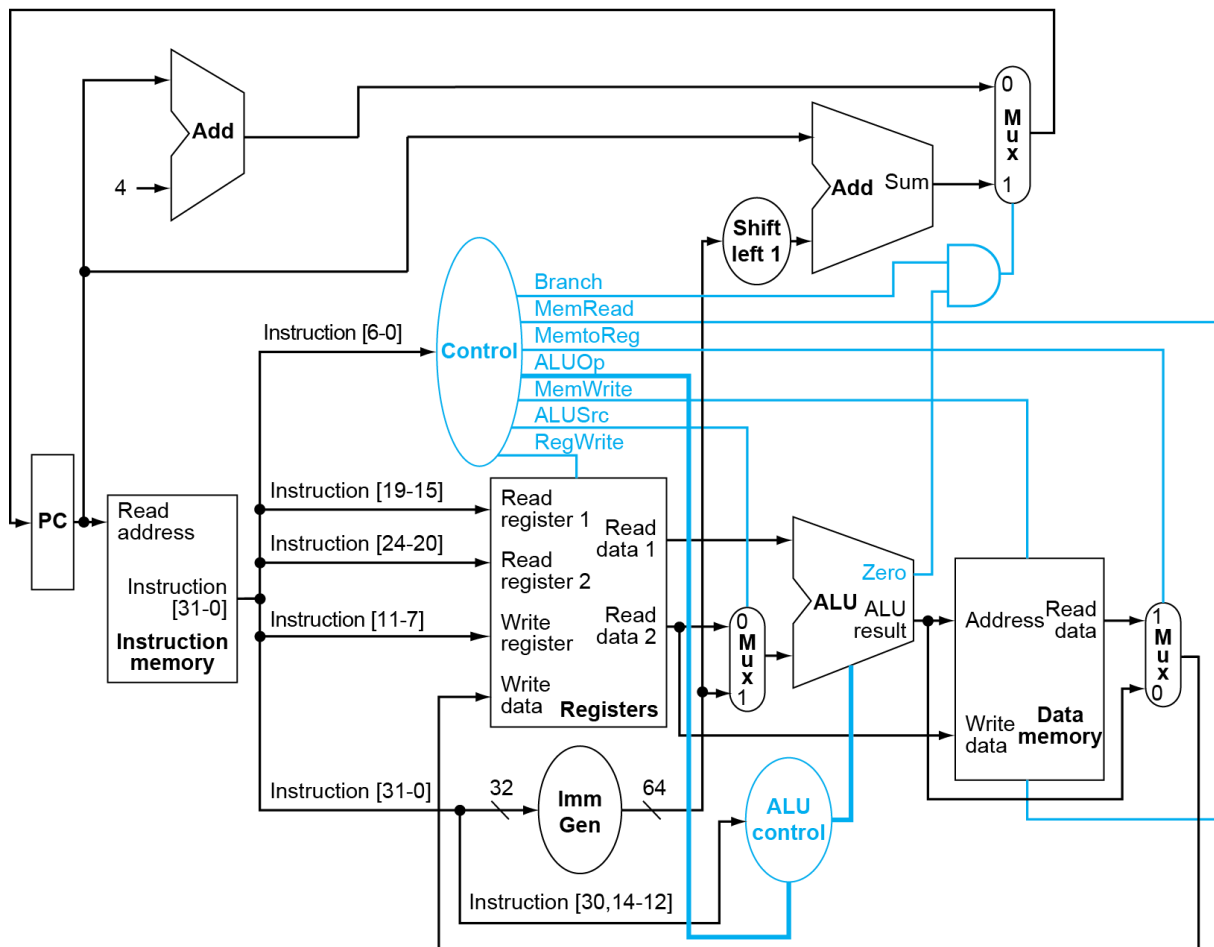

Figure 1. RISC-V single-cycle processor
2. For the single-cycle processor design, we do *NOT* consider I-type instructions such as `addi` and `andi`. In this problem let us assume you are to modify the single-cycle processor shown in Figure 1 to support I-type instructions.
(a) What additional logic blocks, if any, are needed to add I-type instructions to the single-cycle processor shown in Figure 1? List any required logic blocks and explain their purpose. [5]
3. Let us assume that the clock period of the single-cycle processor shown in Figure 1 is 1000 ps. Consider the addition of a multiplier to the CPU. This addition will add 250 ps to the latency of the ALU, but will reduce the number of instructions by 4% (because there will no longer be a need to emulate the multiply instructions).
4. Let us assume that you are requested to add a new instructions, `lwi.d rd, rs1, rs2` ("load with increment",  $R[rd] = M[R[rs1] + R[rs2]]$ ) to RISC-V. Explain how to figure out control signals of the single-cycle processor shown in Figure 1. [10]